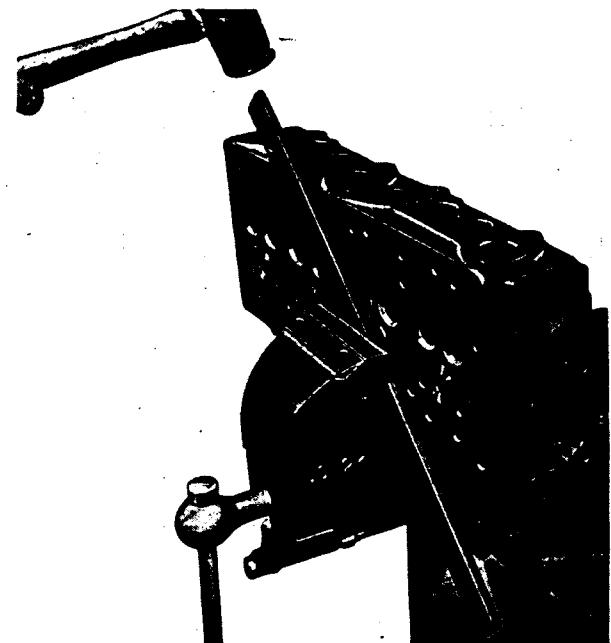

FIG. 119.
3. Remove Jig and pegs and fit Remover FT.136/3 into the drilled holes. Secure Remover in position by mounting head in vice, tightened just sufficiently to prevent the tool slipping out of its location, see Fig. 119. Strike handle of Remover in an anti-clockwise direction to loosen the pre-combustion chamber and then proceed to unscrew and remove it from the head.